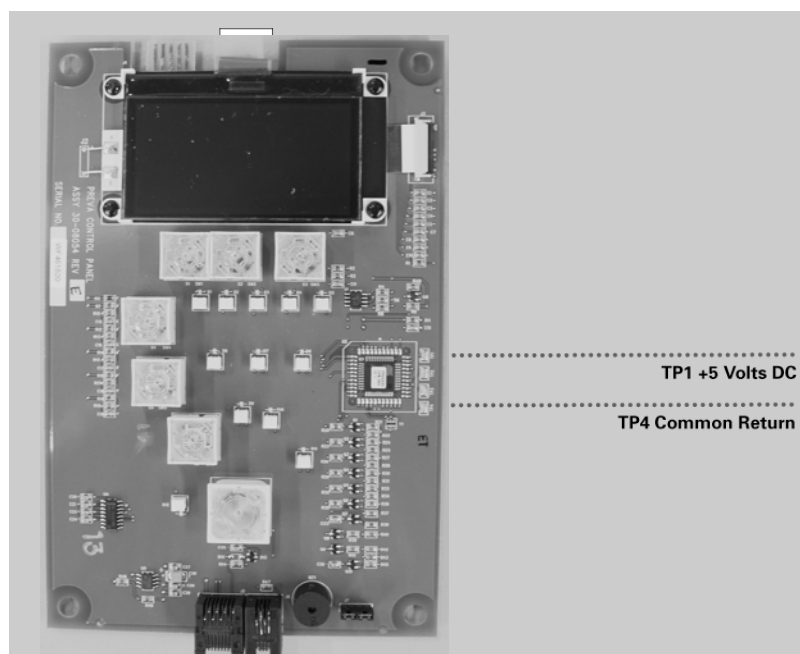

Figure 54
7. If the power supply voltages are present, and the ribbon cable and communication cable are found acceptable, open the Operator Panel case and measure for the presence of +5 volts DC across TP1 and TP4 of the Operator Panel Board, as shown in *Figure 54*. Absence of this voltage indicates the need to reconfirm the power supply voltages and communication cable. Presence of the voltage requires the replacement of the Operator Panel Board.